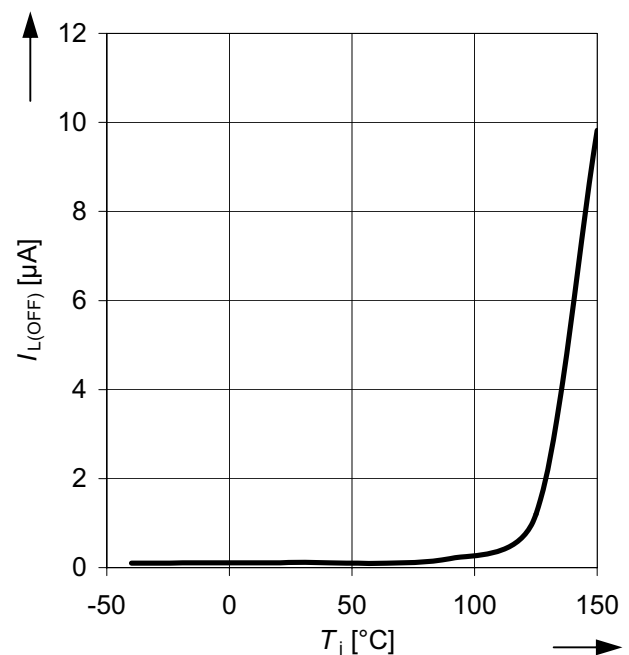

Figure 28 Typ. output leakage current $I_{L(OFF)}$ as a function of the junction temperature T_j
3) See Figure 28 for typical temperature dependency.